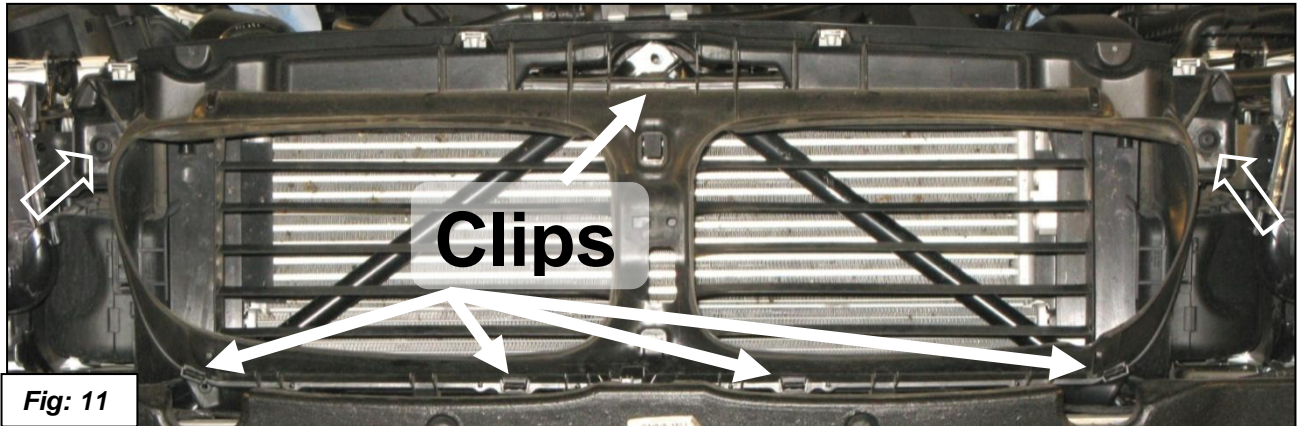

Fig: 11
- Start by removing the outer air duct. Remove the two screws. Unlatch the five clips and remove the outer air duct. See figure 11. Slide out the air diffuser.